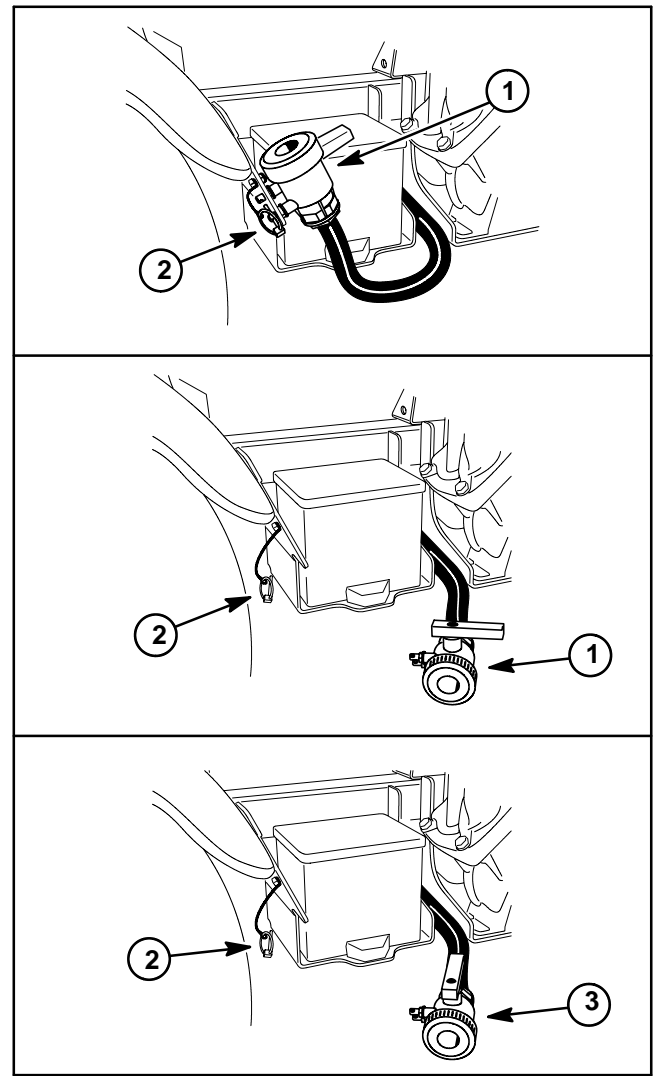

Figure 56
2. Drain spray tank (see Operator's Manual and Fig. 56).